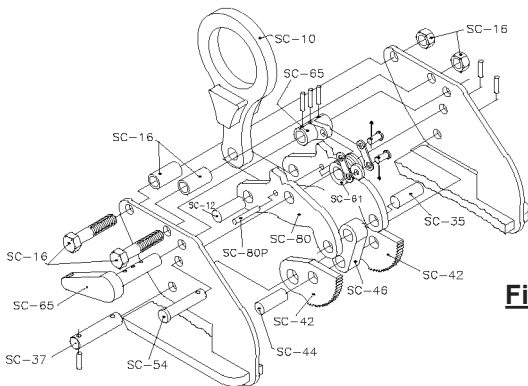

Figure 7
6. Inspect lock spring (SC-61, Fig. 7) for tension. To do this, lock the clamp in the closed position and push in on the lifting shackle. There should be strong resistance to your pressure on the lifting shackle.
4. Inspect gripping cams [SC-50 or SC-42, Fig. 7] to make sure they are sharp and clean. Do not attempt to sharpen these. If gripping surfaces are worn and/or damaged, replace them with genuine Safety Clamps' parts.
- a). Remove roll pins from the SC-54 pin and SC-37 pin (Fig. 7), and remove the SC-54 and SC-37 pins from the body.
- b). Remove the roll pins from the lock assembly SC-65 (Fig. 7).
- c). Pull the handle out and remove the lock (SC-65) and spring (SC-61) assemblies (Fig. 7).
- e). Grip the lifting shackle SC-10 (Fig. 7) and pull inside assembly out of the top of the clamp.
1. Refer to the clamp diagram (Fig. 7) and reverse the disassembly process described on the previous pages.